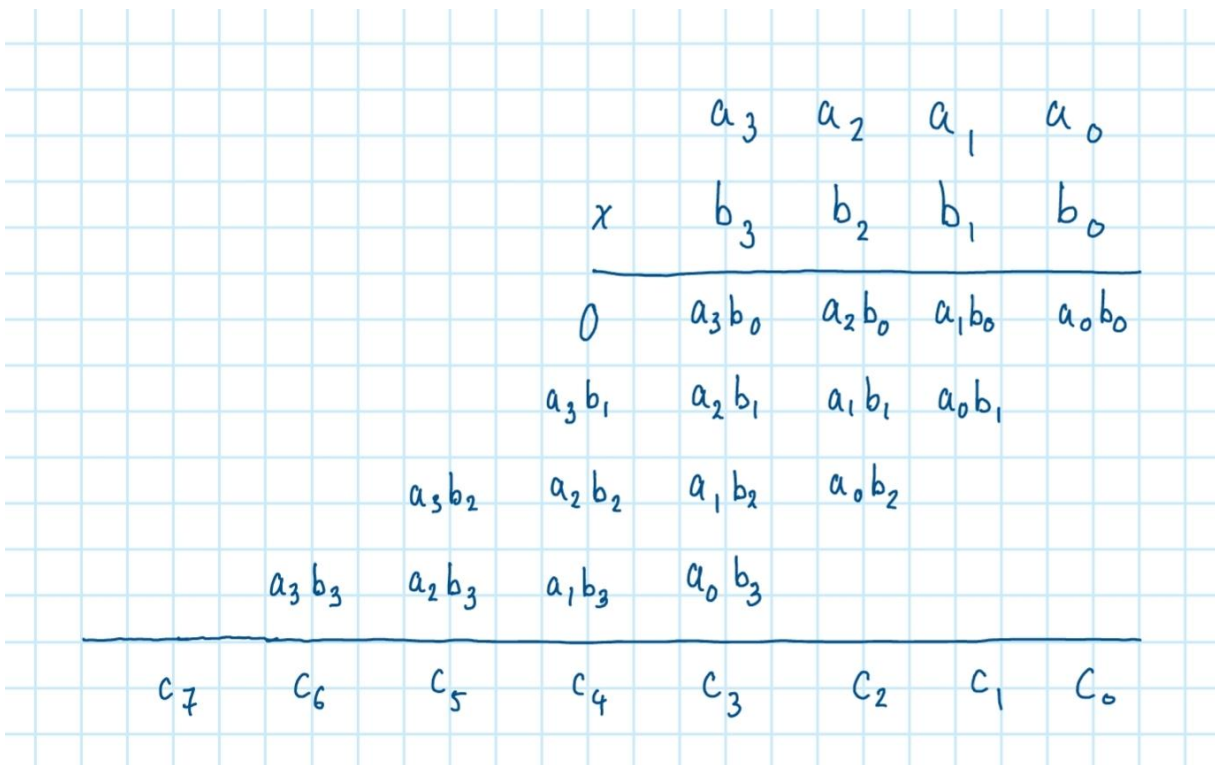

Figure 11: Inputs, intermediates, and outputs of the four-bit multiplier
5. The block diagram for the four-bit multiplier was constructed using three four-bit adders. The logic for determining the inputs, intermediates, and output of the four-bit multiplier is shown in **Figure 11** below.